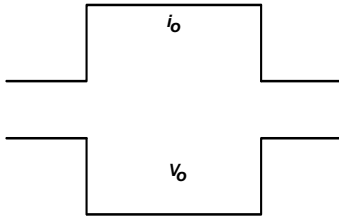
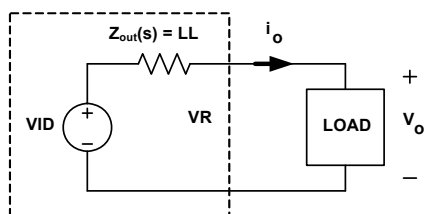

FIGURE 18. DESIRED LOAD TRANSIENT RESPONSE WAVEFORMS
FIGURE 24. VOLTAGE REGULATOR EQUIVALENT CIRCUIT
Assuming the compensator design is correct, Figure 18 shows the expected load transient response waveforms if  $C_n$  is correctly selected. When the load current  $I_{core}$  has a square change, the output voltage  $V_{core}$  also has a square response.
Figure 18 shows the desired load transient response waveforms. Figure 24 shows the equivalent circuit of a voltage regulator (VR) with the droop function. A VR is equivalent to a voltage source (= VID) and output impedance  $Z_{out}(s)$ . If  $Z_{out}(s)$  is equal to the load line slope LL, i.e., constant output impedance, in the entire frequency range,  $V_o$  will have square response when  $I_o$  has a square change.